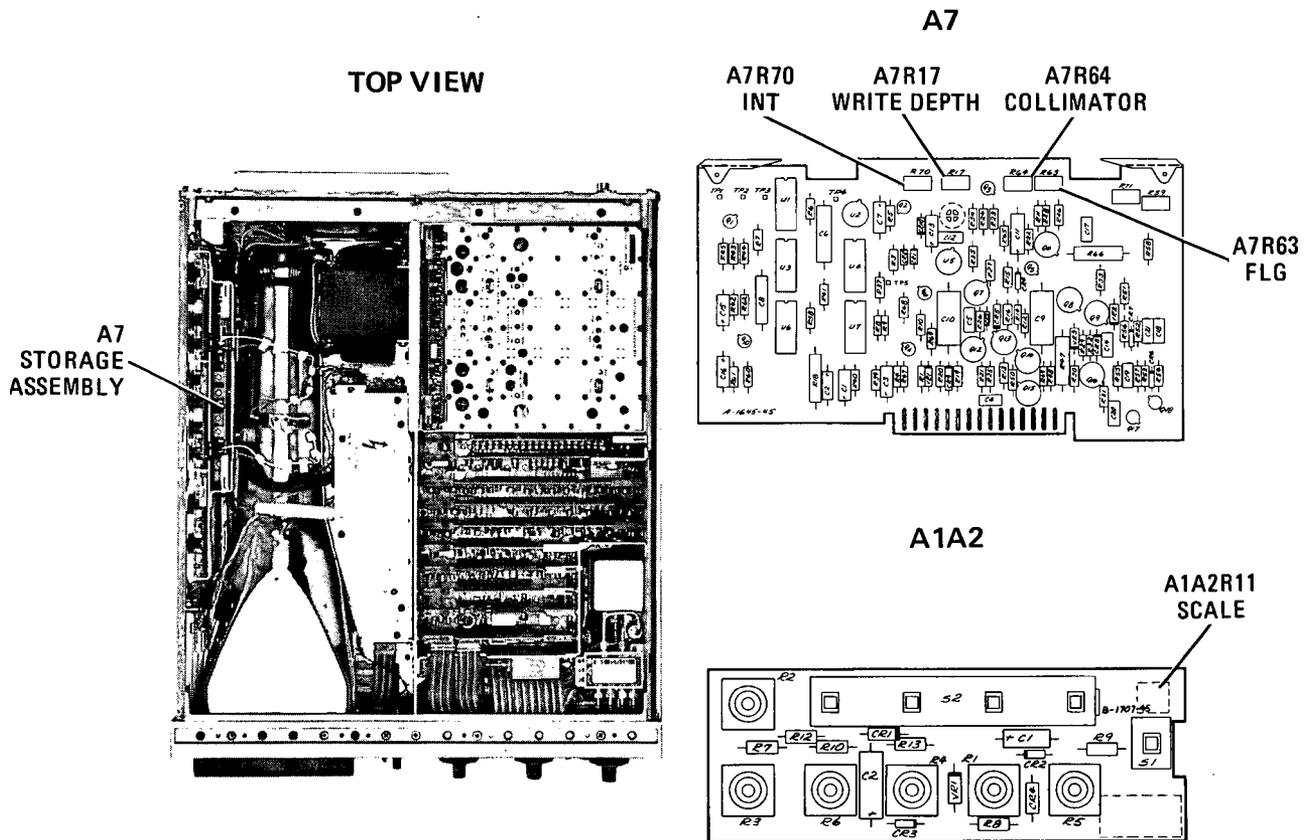
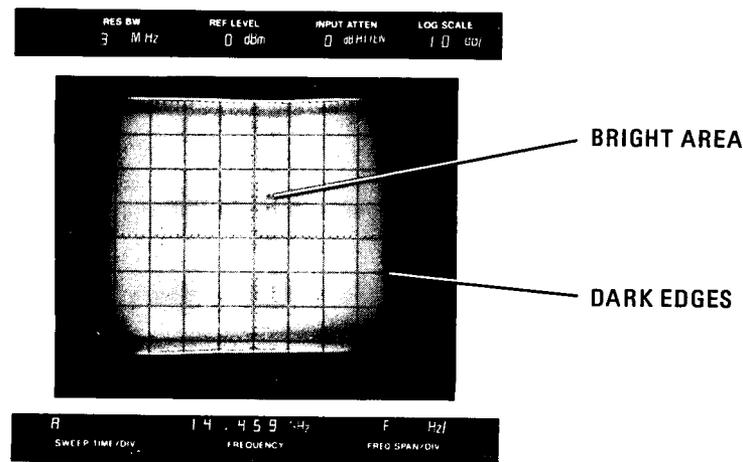

Figure 5-12. Storage Assembly Adjustment Locations
Figure 5-13. Overcollimated CRT Display
- e. Set A7R64 COLLIMATOR adjustment (Figure 5-12) for an overcollimated CRT display as shown in Figure 5-13 (bright green center area with dark edges.)
- f. Set A7R63 FLG (Flood Gun Grid) (Figure 5-12) fully counterclockwise.
- h. Slowly adjust A7R64 COLLIMATOR (Figure 5-12) clockwise until bright green area just fills CRT screen. (Collimation dimples may protrude as far as 3 millimeters in from the outer edge of CRT).
- k. Set A7R17 WRITE DEPTH (Figure 5-12) fully clockwise. Press and release front panel ERASE pushbutton; note that CRT screen remains bright green.
- o. Set PERSIST control fully counterclockwise and adjust A7R70 INT (Figure 5-12) for a trace with minimum brightness.